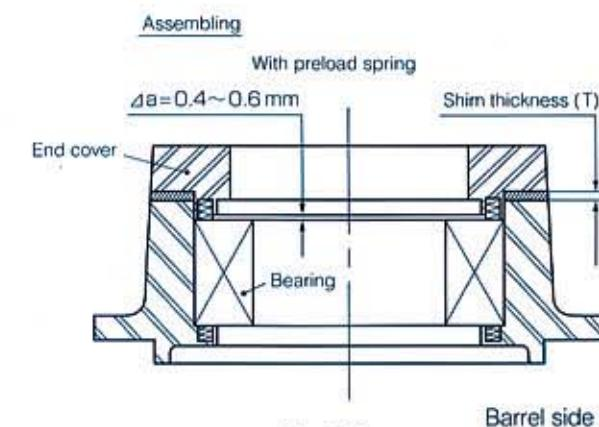

Fig. 3.37 Barrel side
- (4) Remove the end cover and install the springs, then assemble the bearing and install the shim of predetermined thickness (T). This thickness can be determined. (**Fig. 3.37, Table 3.1**)
- (5) Other cautions.